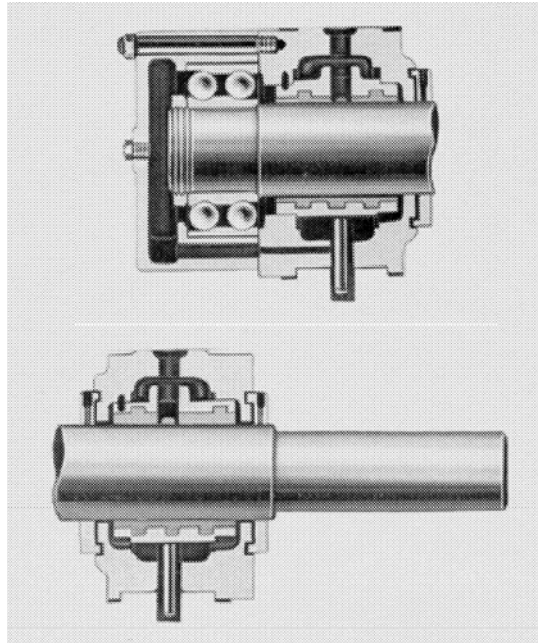

Figure 33: Ring oil lubricated bearings
- On units with sleeve bearings, see Figure 33: Ring oil lubricated bearings on page 38.